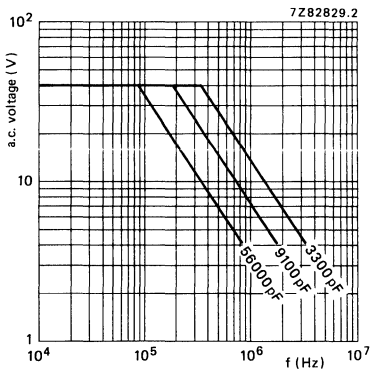

Fig. 3 Maximum a.c. voltage (r.m.s. value) as a function of frequency at $T_{amb} \leq 70^\circ\text{C}$, for $U_R = 63\text{ V}$.
* At $T_{amb} \leq 70 \text{ }^\circ\text{C}$ the maximum permissible sinusoidal voltage can be found in Figs 3, 4 and 5.